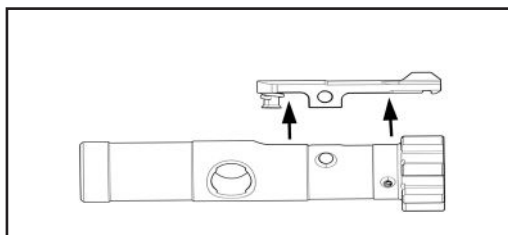

Fig. 43 – Separate the extractor form the bolt head
- h. Separate the extractor from the bolt head (Fig. 43).
- b. Insert the extractor with spring and buffer into the bolt head. Place pressure on the back of the extractor, line up the mounting surfaces and install the extractor pin. Ensure the extractor pin is centered in the bolt head before attempting to install the bolt head into the bolt carrier (Fig 43).